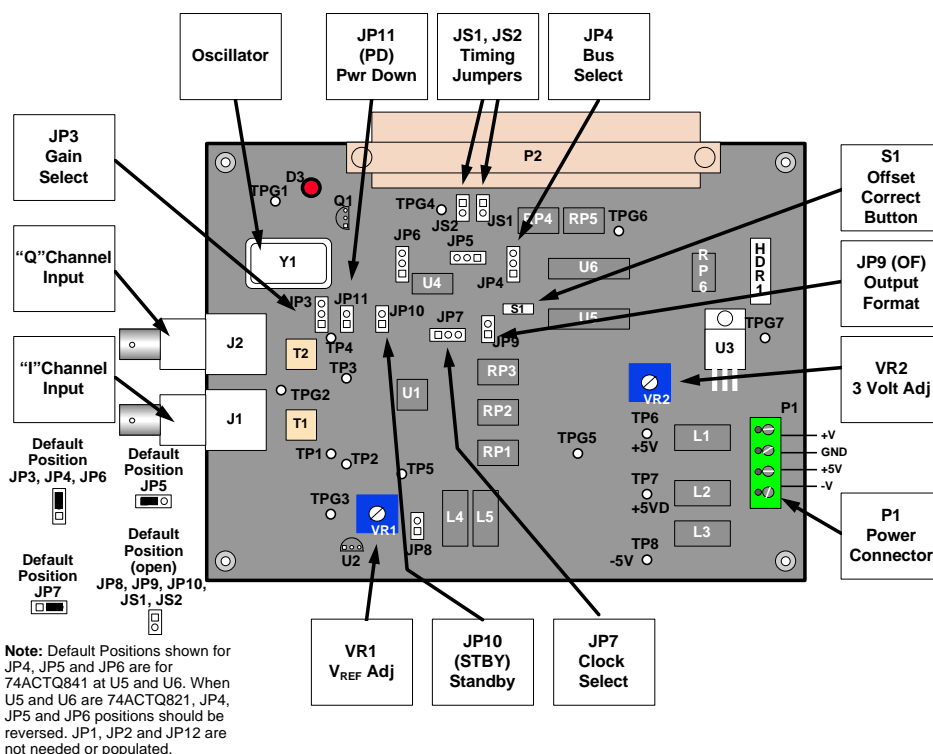

Figure 1. Component and Test Point Locations
The ADC10D040 Evaluation Board may come pre-assembled or as a bare board that must be assembled. Refer to the Bill of Materials (Section 8.0) for a description of components, to Figure 1 for major component placement and to Figure 8 (in Section 8.0) for the Hardware schematic.
Refer to *Figure 1* for locations of test points and major components. For Stand-Alone operation:
2. To use the crystal oscillator located at Y1 to clock the ADC, connect the jumper on JP7 to pins 1 and 2 (opposite from default position shown in *Figure 1*).
To select the "Q" channel, and direct its output to the data bus, place the jumper on JP4 between pins 1 and 2 (opposite from default position shown in *Figure 1*).
An adjustable reference circuit is provided on the board. When using the resistor values shown in *Figure 1*, the reference circuit will generate a nominal reference voltage in the range of 0.4 to 1.2 Volts. The ADC10D040 is specified to operate with V_{REF} in the range of 0.8V to 1.2 V, with a nominal value of 1.0V when the GAIN pin is at a logic high, or half these values when the GAIN pin is at a logic low. The reference voltage can be monitored at test point TP5 and is set with VR1.